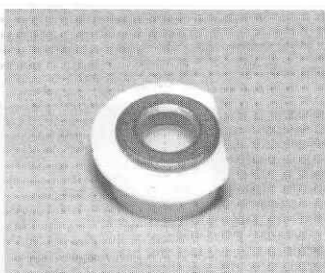

Fig. 55
- ☐ **Fig. 55** Install the bushing all the way in the adaptor, as shown.